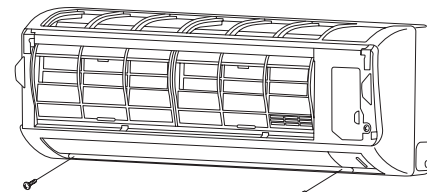
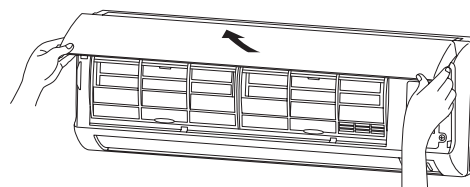

Fig. 2-165
Fig. 2-168
- (2) Remove the 2 screws. (Fig. 2-165)
- (2) Make sure that the grille and frame are firmly fitted together by engaging the tabs.
- (3) Affix the grille with the 2 previously removed screws. (Fig. 2-165)
- (4) Install the air intake grille.
- (a) Allow the edge of the air intake grille to slide into the top of the indoor unit, and then insert it all the way inside. (Fig. 2-168)